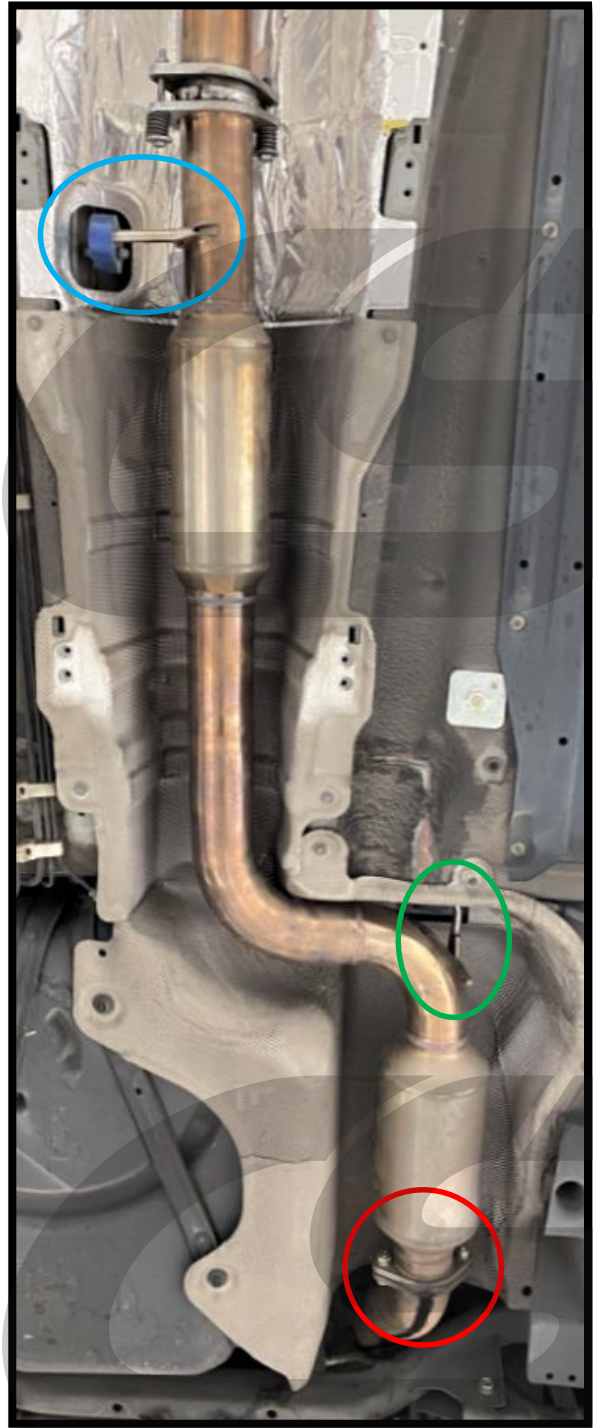

Figure 4a
a) Using a 17mm socket and wrench, remove the bolts connecting the front midpipe section from the rear midpipe section. Location circled in red in Figure 4a.
NOTE If removing an OEM exhaust, you will need to use a Sawzall or grinder to cut the exhaust near the flange shown with red circle in Figure 4a.
b) Remove the forward exhaust hanger using channel lock pliers or exhaust hanger pliers. Have a friend support the exhaust after removal and during the next step. Hanger shown circled in blue in Figure 4a.
c) Remove the rearward exhaust hanger using channel lock pliers or exhaust hanger pliers. The midpipe section can then be removed from the vehicle. Hanger shown circled in green in Figure 4a.